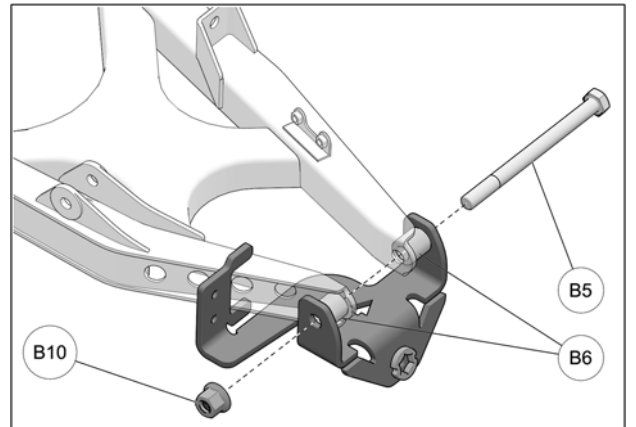

Fig. 8
8. Insert new M14x180mm bolt (**B5**) through anchor bracket, bushings (**B6**), suspension arm and wheel knuckle. Secure assembly with the provided M14 nut (**B10**). Hand-tighten only at this point. See Fig. 8